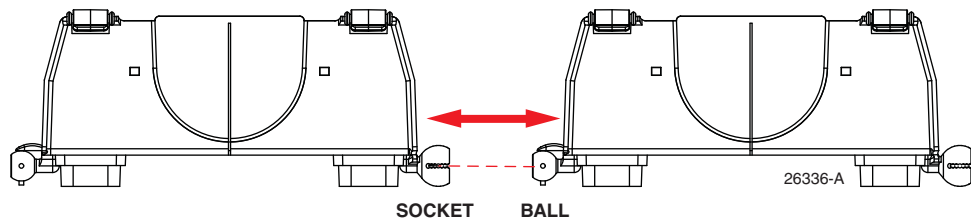

Figure 9. Joining Two Universal Troughs
2. Construct a chain of universal adapters as shown in Figure 9 by joining the ball and socket joints. To do this, orient the socket end on one universal adapter to mate it with the ball end on another universal trough. Snap the universal adapters together.